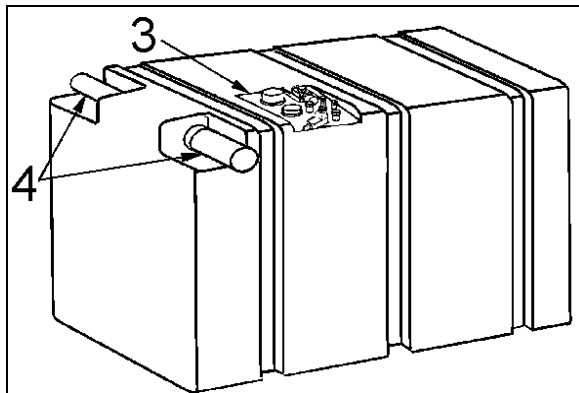

FIGURE 3 : ③ CONNECTION PANEL
9. Remove connection panel (item ③ figure 3).
10. Install ball check valve flange #032436 on the tank hose connection (item ④ figure 3). Mark on and drill two holes using a #8 drill.